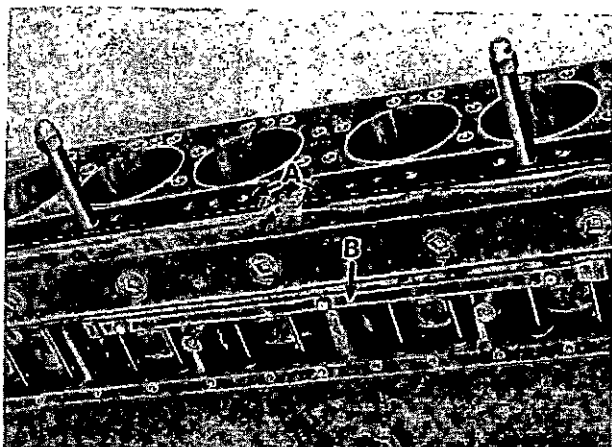

Fig. 12 Cam follower retainers (A) and oil gallery (B) T720040
11. **Cam followers and valve gear oil gallery.** Oil and fit cam followers. Assemble the oil gallery with its longest face inwards (fig. 12) and a spigot washer beneath each bolt head. Fit the baffle plate, with a joint on each side, and the tappet cover. Fit two retaining tools GA.623 (fig. 12) to prevent the cam followers falling out if the engine is inverted prior to fitting cylinder heads.